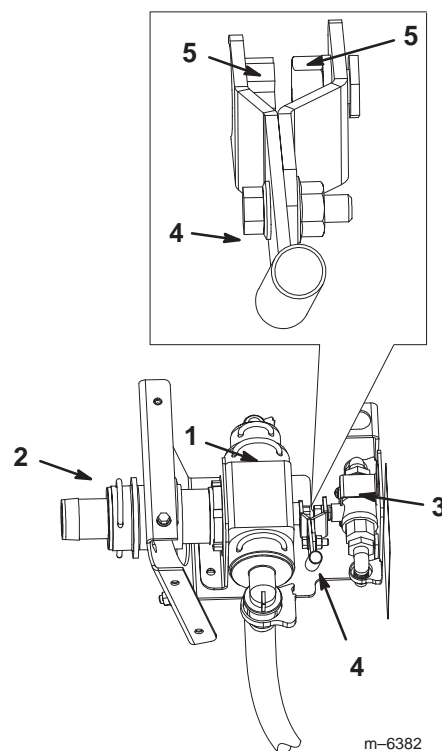

Figure 13
3. Remove the barbed fitting and retainer from the control valve assembly (Fig. 13).
2. Connect the end of the lever assembly on the small ball valve assembly to the control valve assembly (Fig. 13).
4. Install the control valve assembly onto the control box mounting bracket (Fig. 13) using 2 flange-head bolts (1/4 x 3/4 inch) but do not tighten the fasteners.
5. Install the small ball valve assembly to the control box mounting bracket (Fig. 13) using 2 flange-head bolts (1/4 x 3/4 inch) and 2 flange nuts (1/4 inch) but do not tighten the fasteners.
6. Align the axis of the levers on each valve and the valves (Fig. 13) You may need to loosen the hose clamps securing the flow meter to the machine to get everything to fit well.